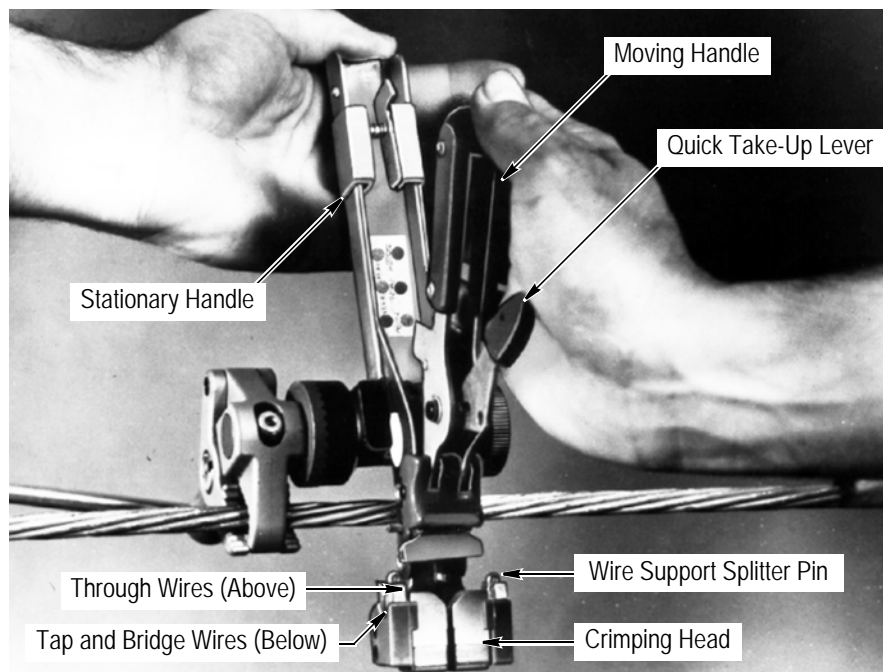

Figure 2
4. HAND TOOL OPERATION (See Figure 2)
2. Support the stationary handle of the tool with one hand. Then depress the quick take-up lever and squeeze the moving handle with the other hand until the moving handle bottoms. Refer to Figure 2.